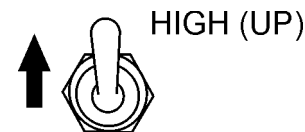

Figure 43. Engine Speed Switch (High)
4. Once the engine starts, let it engine run for 1-2 minutes. Listen for any abnormal noises. If any abnormalities exists shutdown the engine and correct the problem. If the engine is running smoothly, place the engine speed switch (Figure 43) in the “**HIGH**” (up) position.